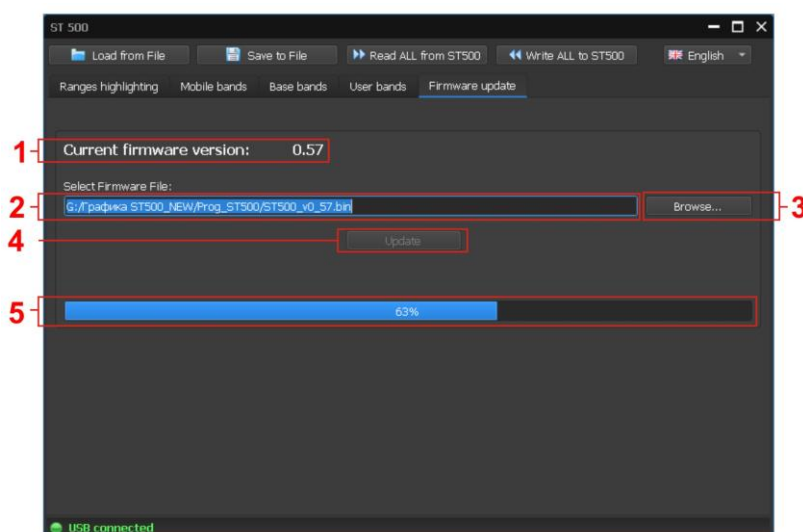

Fig.52
When "Firmware update" is on, the screen looks as shown in fig. 52 below.
In fig. 52:
6. In the opened window select the path to the file with latest firmware version and click "Open". The file name and path will be shown on screen (fig.52, 2).
7. Click "Update". The progress will be shown on screen (fig.52, 5). Upon completion you will be prompted, "Update done!".
9. The new firmware version will be shown in the corresponding field (fig.52, 1).